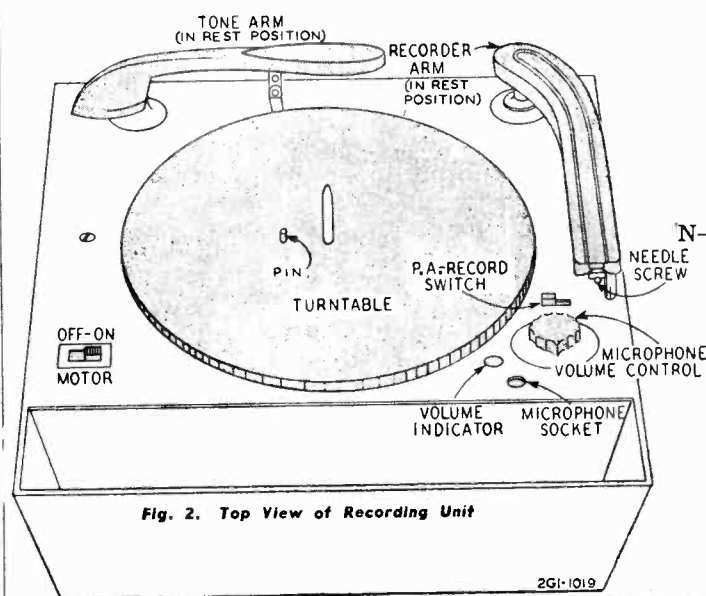

Fig. 2. Top View of Recording Unit
B—Tone arm in rest position—See Fig. 2.
C—Microphone Volume Control in OFF position—See Fig. 2.
J—Push the Motor Switch Knob to the ON position (Fig. 2) and allow the turntable to come up to full speed.
F—Insert the plug on the end of the microphone cord in the microphone socket (Fig. 2) on the motor panel and push this plug all the way down.
- L—Push the Motor Switch Knob to the ON position (Fig. 2) and allow the turntable to come up to full speed.
- B—Tone arm in rest position—See Fig. 2.
- C—Microphone Volume Control in OFF position—See Fig. 2.
- F—Insert the plug on the end of the microphone cord in the microphone socket (Fig. 2) on the motor panel and push this plug all the way down.
B—Insert the plug on the end of the microphone cord in the microphone socket (Fig. 2) on the motor panel and push this plug all the way down.